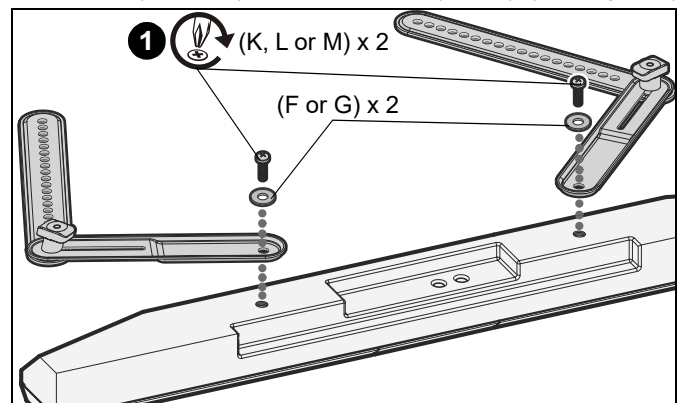

Figure 5
- Attach the soundbar brackets (A) to soundbar using two screws (K, L or M) and two washers (F or G). (See Figure 5)